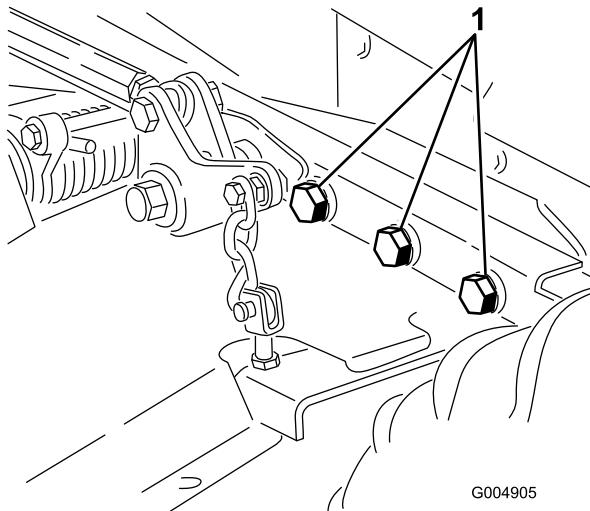

Figure 91
4. Check all fasteners for looseness and tighten them as necessary. Especially torque the 6 bolts securing the mower deck frame to the traction unit (Figure 91) to 359 N·m (265 ft-lb).